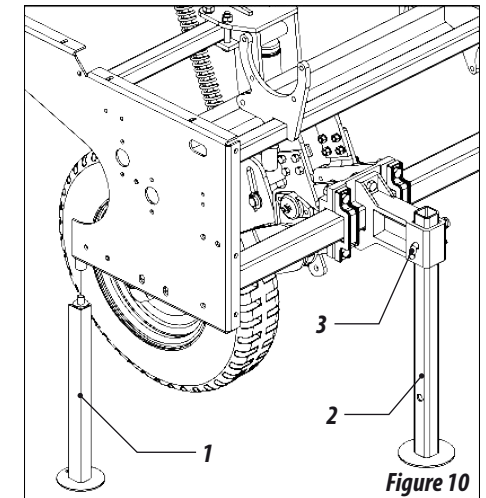

Figure 10
- 01 - To make additional spacing between the rows, lift the seeder by pushing the piston. Place the rear support bracket (1) lower the support bracket (2) locking with the pin (3). **Figure 10.**